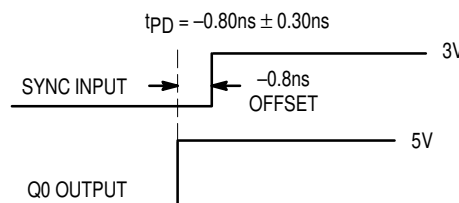

Figure 2. Depiction of the Fixed SYNC to Q0 Offset (t_{PD}) Which Is Present When a $1\text{M}\Omega$ Resistor Is Tied to V_{CC} or Ground
- A $1\text{M}\Omega$ resistor tied to either Analog V_{CC} or Analog GND, as shown in Figure 2, is required to ensure no jitter is present on the MC88916 outputs. This technique causes a phase offset between the SYNC input and the Q0 output, measured at the pins. The t_{PD} spec describes how this offset varies with process, temperature, and voltage. The specs were arrived at by measuring the phase relationship for the 14 lots described in note 1 while the part was in phase-locked operation. The actual measurements were made with a 10MHz SYNC input (1.0ns edge rate from 0.8V to 2.0V). The phase measurements were made at 1.5V. See Figure 2 for a graphical description.